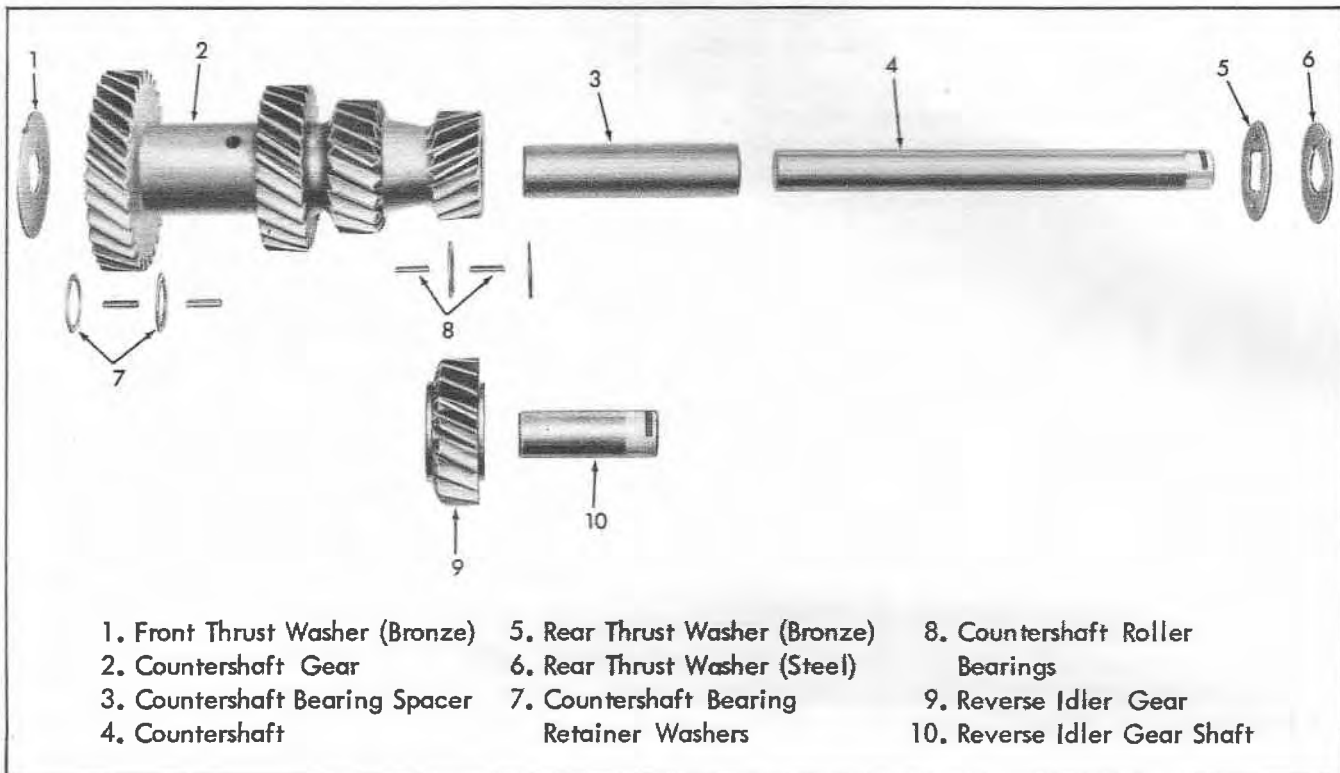

Fig. 12 Countershaft Gear Exploded View With Reverse Idler Gear and Shaft
18. Remove countershaft gear assembly and thrust washers from transmission case. Remove tool from countershaft gear. Remove 80 roller bearings, four bearing retaining washers, and bearing spacer from inside the gear (Fig. 12).
2. Install two rows of 20 roller bearings over tool in each end of countershaft gear with bearing retainer between each row and at outer ends of bearing (Fig. 12).